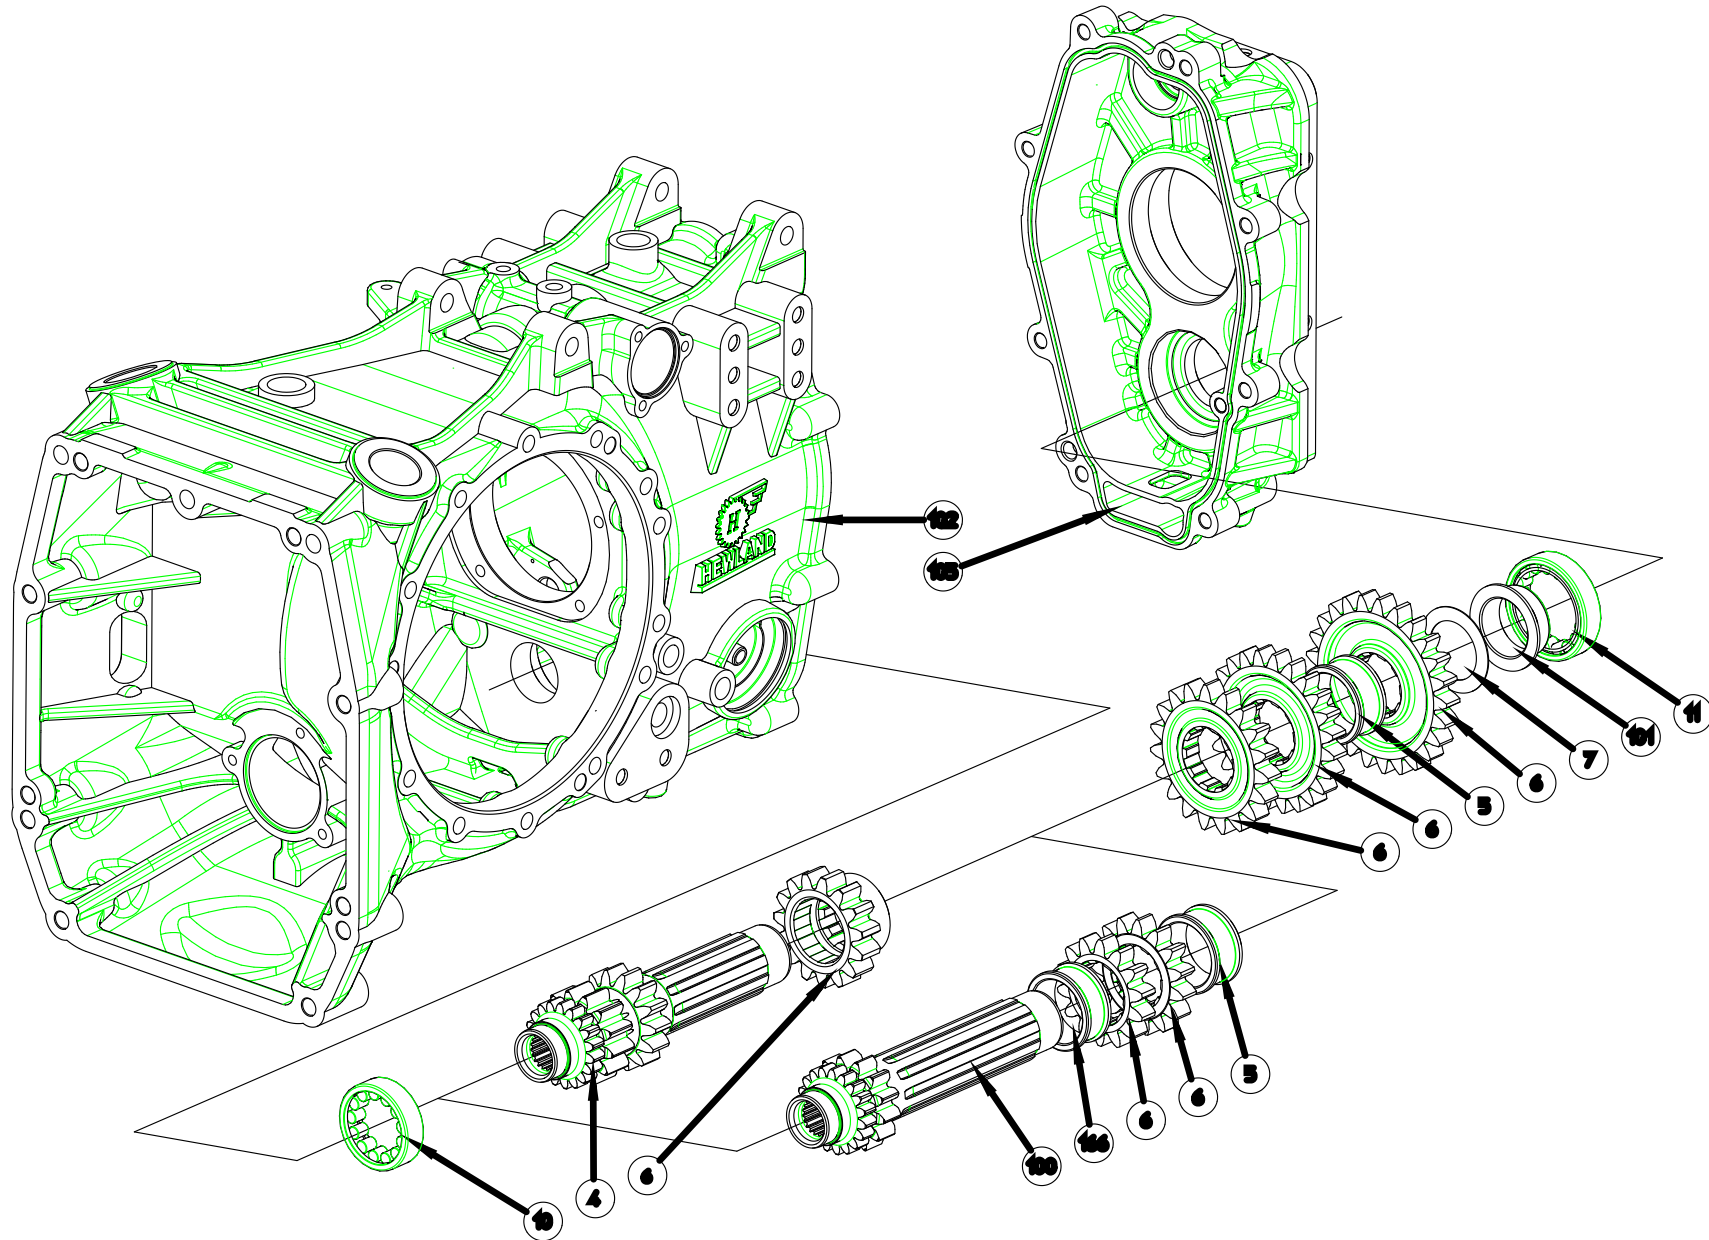

Figure 14- Layshaft Assembly
- ⚙ Slide the reverse idler top hat bush (48) into place in the maincase (102), then push it in as far as it will go. Slide the second reverse idler top hat bush (34) into place, then pull it towards the rear of the maincase. Press the bearing (52) into the reverse idler gear (33), slide the sleeve (49) into the bearing, and position the gear between the bushes. Push the reverse idler top hat bush (34) towards the front of the maincase, fit the screw (87), and lockwire.
- ⚙ Press the dowel (35) into the maincase, and secure the detent arm (82), trunion (51), and spring (83) into the maincase using screw (59) and washer (53).
- ⚙ Position the pawl (91) in the slot in the selector rack (153), and press pin (30) into place ensuring that it does not protrude outside the rack outer diameter, and moves freely. Slide the washers (50), spring (155), and sleeve (156) onto the rack and secure them with circlip (16). This spring has a limited effective life, therefore periodic replacement is recommended. It is also advisable never to re-use the circlip (16).
- ⚙ Fit the quad ring seal (154) carefully into the seal carrier (152), then assemble it onto the maincase using screws (90) ensuring o-ring (78) is fitted. Fit the spring carrier (151), into the maincase, oil the rack liberally and slide it in, ensure that it travels back and forth without any stiction. Fit the anti-rotation pin (93) and washer (128) into the maincase.
- ⚙ Put the fork setting spacer (32) onto the barrel (117) and whilst holding the detent arm against its spring using a pair pliers feed the barrel into the maincase and secure with the barrel bolt (118). It may be necessary to lift the pawl up so as to let the barrel pass underneath it.
- ⚙ Slide the plunger (92), spring (1) and washer (36) into the rack and secure with circlip (15), then fit rack cover (150) and o-ring (78), using screws (90). NB. If the gearbox has not yet been fork set, then delay this step, as it is easier to push the pawl up if it has not yet been fitted with its return spring.
- ⚙ Assemble the bell crank (162), bearings (160), spacer (161), washers (158) and shim washer (159) to the maincase and secure with screw (157) and nut (163). Ensure by adjusting the shim washer thickness that the selector operates smoothly in both directions, and self-returns to its normal position. Fit the bearing (28) onto the clutchshaft (18) and secure using circlip (26). Fit oilseal (44) into slave adaptor (116), and slide the slave adaptor over the clutchshaft to enable fitting of bearing circlip (27). Offer up clutchshaft assembly to the maincase with o-ring (29) in place and secure with screws (90).
- ⚙ Fit the bearing (28) onto the clutchshaft (18) and secure using circlip (26). Fit oilseal (44) into slave adaptor (116), and slide the slave adaptor over the clutchshaft to enable fitting of bearing circlip (27). Offer up clutchshaft assembly to the maincase with o-ring (29) in place and secure with screws (90).
- ⚙ The gear cluster can now be loaded into the maincase, (this is assuming that the pinion, and pinion bearing preload have been set as previously described). With the pinion shaft (69) complete with the pinion head bearing (67) inner race held in position in the maincase the pinion gears, spacers, hubs, bearings and clutchrings can be slide onto it. It is necessary to fit the relevant selector forks in conjunction with their clutchring, locating the selector fork pin into the barrel track, once all four forks are correctly located with their clutchring, and the barrel, then the selector rail (114) can be slid through all of the forks and into the maincase. The layshaft, input gears, and spacers can now also be assembled into the maincase. (See figure 14 for details of both layshaft designs). NB The pinion gears may need rotating in order to allow the input gears to pass and mesh properly.
- ⚙ The bearing carrier (105) can now be fitted with the barrel oil seal (64), barrel bearing (8), pinion shaft bearing outer (14), layshaft bearing outer race (11), and secured onto the maincase, ensuring that the o-ring cord (125) has been correctly fitted into its groove.
- ⚙ The pinion shaft bearing inner race (24), and locknut (110) can now be fitted and tightened to the recommended torque, the locknut locking ring (72) and retaining circlip (43) can now be applied.
- ⚙ The oil pump gears (112), (120), and rear cover (123) can now be fitted ensuring that the o-ring (76) has been correctly located in its groove.
- ⚙ Fit the output shaft oilseal (39), bearing (38), and output flange (107) in the maincase, securing it with circlip (23). Fit similar parts into the sideplate (106). Assuming that the differential bearing preload and the crownwheel and pinion backlash have been set as previously described, then the differential can be fitted into the maincase, and the sideplate (106) secured into position ensuring that the o-ring (81) is fitted.
- ⚙ With a drip tray placed beneath the gearbox, remove the magnetic drain plug (54) and drain the oil.
- ⚙ Remove the nuts (73) and washers (36) securing the rear cover (123), oil pump gears (112), (120) and the pinion shaft bearing locking ring retaining circlip (43).
- ⚙ Remove the retaining ring (72), the locknut (110) and the pinion bearing inner race (24).
- ⚙ Remove the nuts (73) and washers (36) securing the bearing housing, and slide it off of the maincase. It may be necessary to lightly tap the bearing carrier using a soft mallet, never use a screwdriver to lever between the joint faces, as this may damage the faces and impair the seal efficiency when reassembled.
- ⚙ Replace the gears with the required ratios. Gears are supplied in matched pairs, one for the mainshaft and one for the layshaft. Each gear is marked with two sets of numbers. The first of these indicates the number of teeth on the layshaft gear, while the second signifies the number of teeth on the mainshaft gear which mates with it. (e.g. 16/32) Both gears of each pair are marked in an identical manner. It is essential that gears are correctly paired to these numbers. On all first gears, and some second gears, the gear teeth are machined integral with the layshaft. In such cases, therefore, if a first, or second, gear ratio change is required, the layshaft itself must be changed. If the integral first/second layshaft is fitted, then the third gear ratio on the layshaft is a hubbed gear, if the first only gear is integral on the layshaft, then second and third gear ratios are standard gears and spacers (5) and (180) are required. Refer to figure 14 for details.